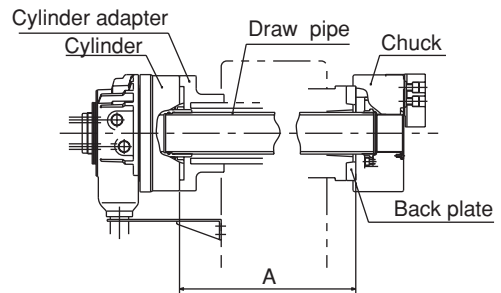

Fig.17
- Determine the dimension (dimension ϕE in Fig.17) of the back plate so that the plunger nut end surface contacts the back plate and stops when pulling the plunger nut. If the stroke is larger than the one specified, it may cause a chuck breakage or gripping failure.